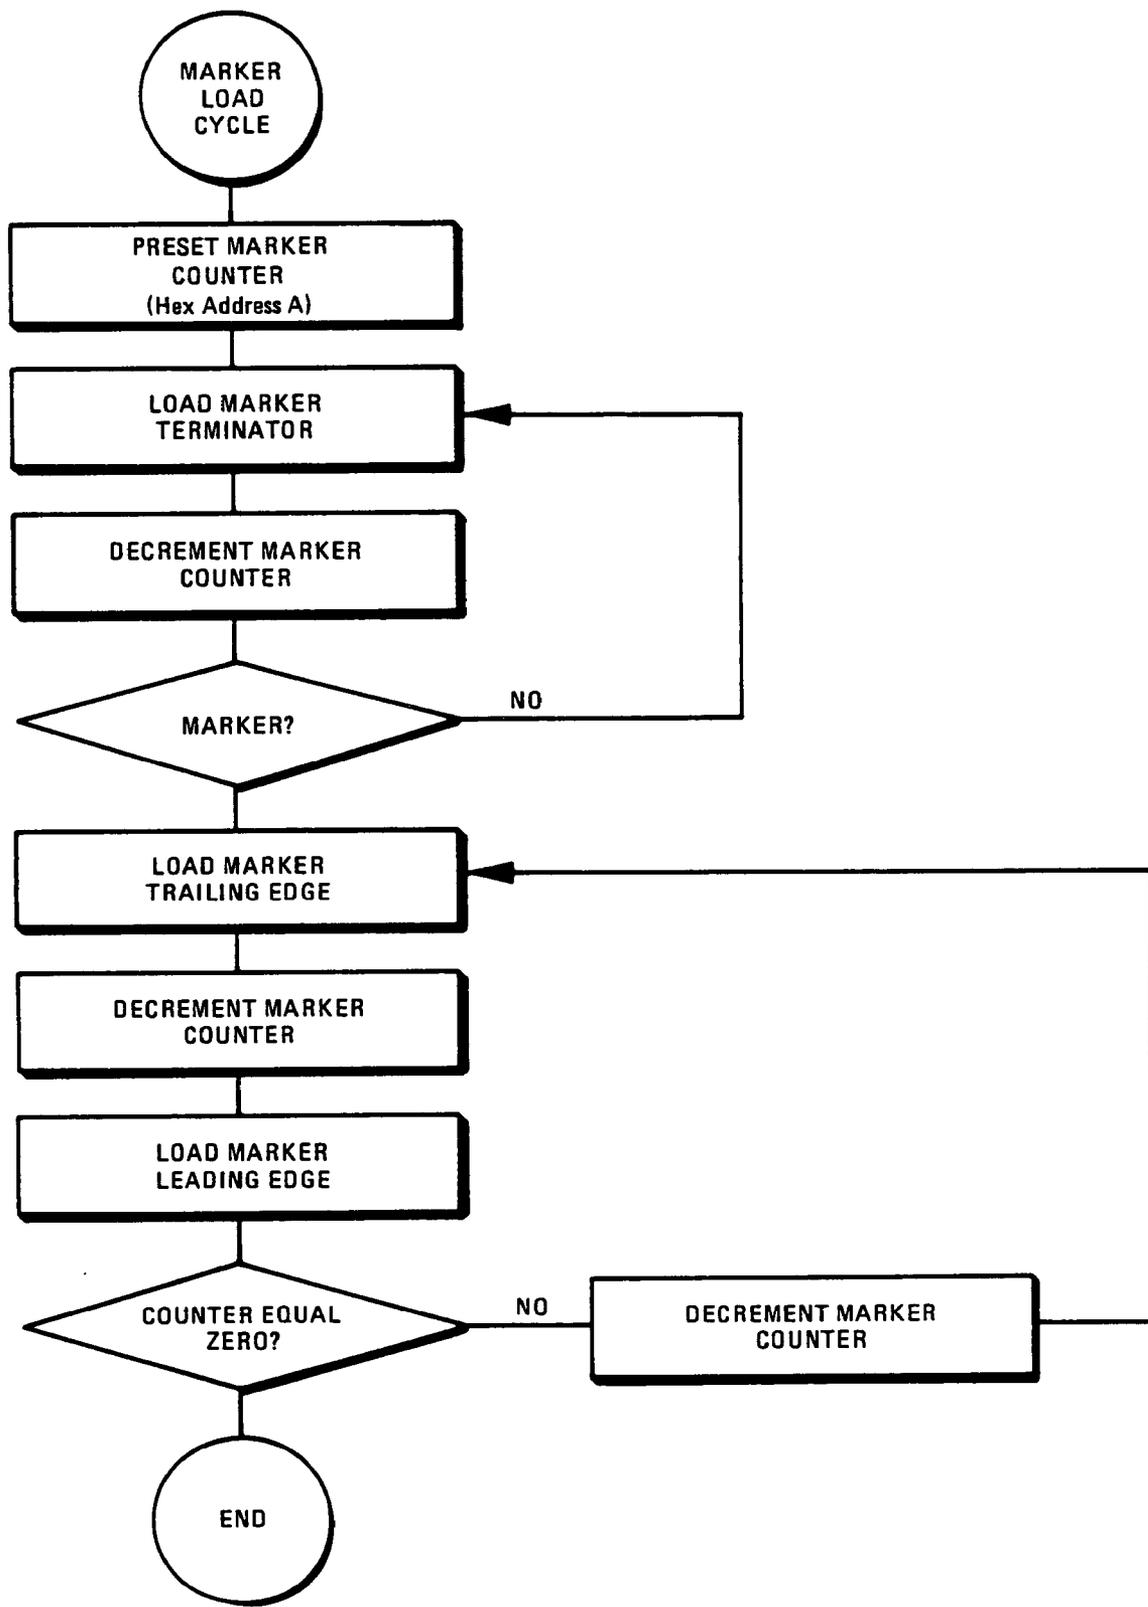

Figure 8-25. Marker Load Cycle, Flow Diagram
The A3 microprocessor writes the hexadecimal value A on instrument bus data lines D0 through D3. LEN6 is set low, then this value is loaded into marker counter U21. This value appears at the counter output and addresses marker RAM location A (hexadecimal). The A3 microprocessor then writes the marker terminator byte on the instrument bus data lines D0 through D7. With L EN7 now set low, the terminator byte is written to the marker RAM (hexadecimal 00 is loaded so that the RAM data output will be hexadecimal FF). L EN7 simultaneously decrements the marker counter U21 to address the next lower RAM address (9). The A3 microprocessor writes the value of the marker trailing edge for the highest frequency marker on the instrument bus data lines D0 through D7. The low L EN7 value is then stored in RAM location nine. The marker counter output is decremented by one, and the microprocessor writes the leading edge of the highest frequency marker into RAM location eight. The cycle continues until the trailing and leading edges for all five markers are loaded into RAM. The microprocessor then presets the marker counter to zero for the start of sweep. Refer to Figure 8-25 for the RAM loading diagram.